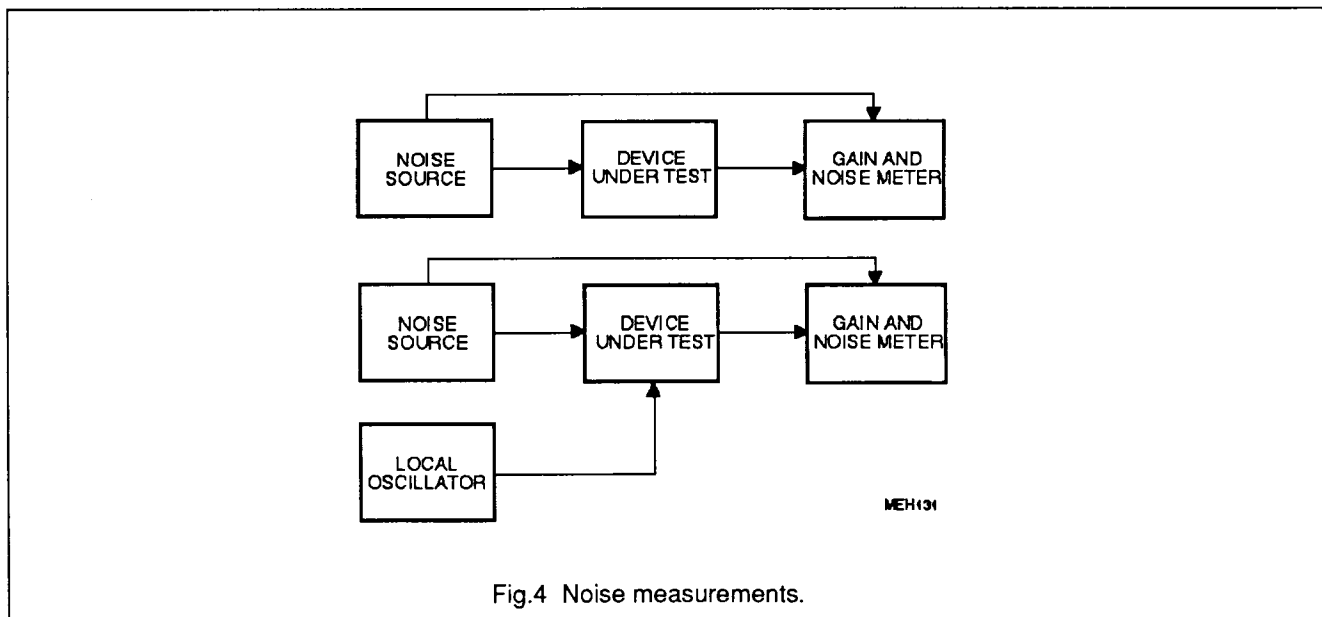

Fig.4 Noise measurements.
**Noise figures**, measured with gain and noise meter (Fig.4).